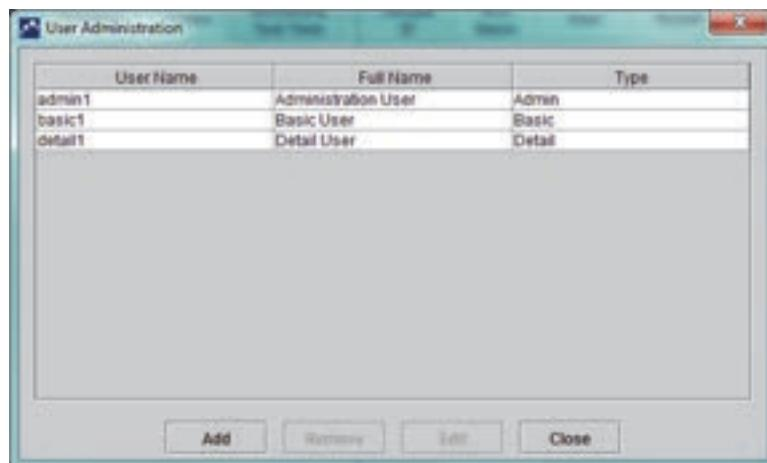

Figure 2-74. User Administration Dialog Box
1. In the GeneXpert Dx System window (see Figure 2-56), on the **Setup** menu, click **User Administration**. The User Administration dialog box appears. See Figure 2-74.